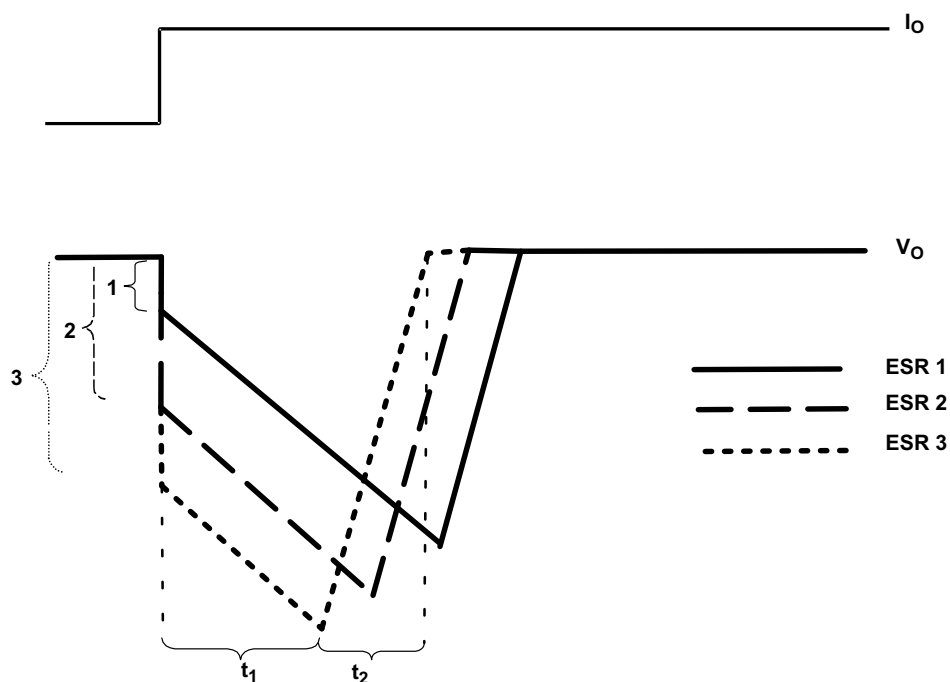

Figure 23. Correlation of Different ESRs and Their Influence to Regulation of V_O at Load Step From Low-to-High Output Current
- The LDO is not able to supply the sudden current need due to its response time (t_1 in Figure 24). Therefore, capacitor C_O provides the current for the new load condition (dashed arrow). C_O now acts like a battery with an internal resistance, ESR. Depending on the current demand at the output, a voltage drop will occur at R_{ESR} . This voltage is shown as V_{ESR} in Figure 23.
Figure 23 also shows the impact of different ESRs on the output voltage. The left brackets show different levels of ESRs, where number 1 displays the lowest and number 3 displays the highest ESR.